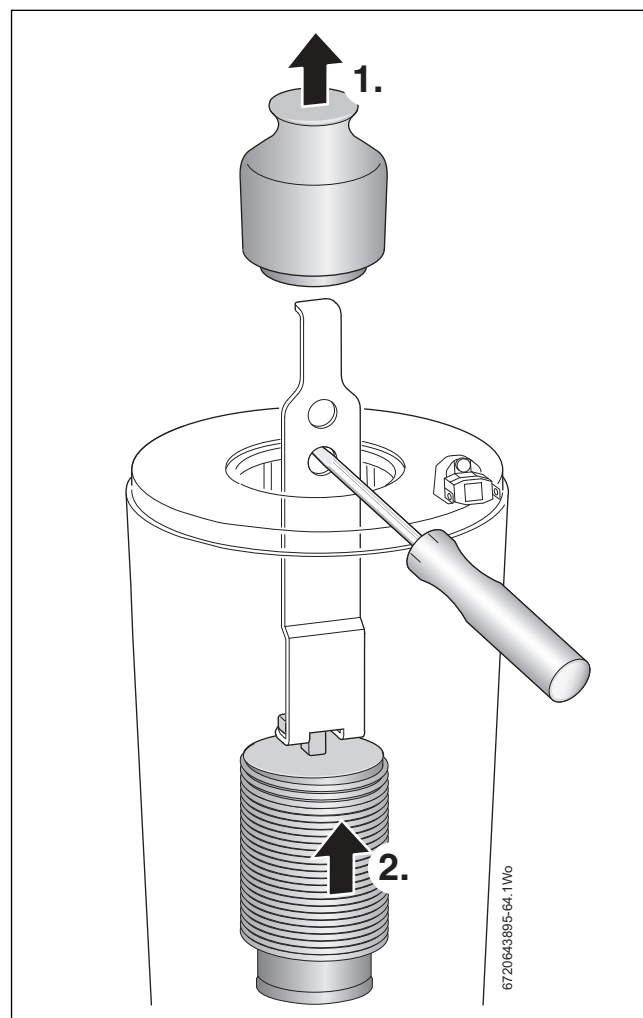

Fig. 77 Baffle removal
Refer to figure 77.
If the lower baffle is stuck, it may be necessary to use the "baffle removal tool" from the heat exchanger cleaning kit part number: 7 716 192 312, as shown in figure 77.
- ▶ Re-assemble ensuring that the lower baffle [2] and the top baffle [1] are refitted correctly (refer to figure 77).
- ▶ The baffles [1] and [2] must be refitted into the heat exchanger in the order shown in figure 77. Failure to do so may result in damage to the boiler.